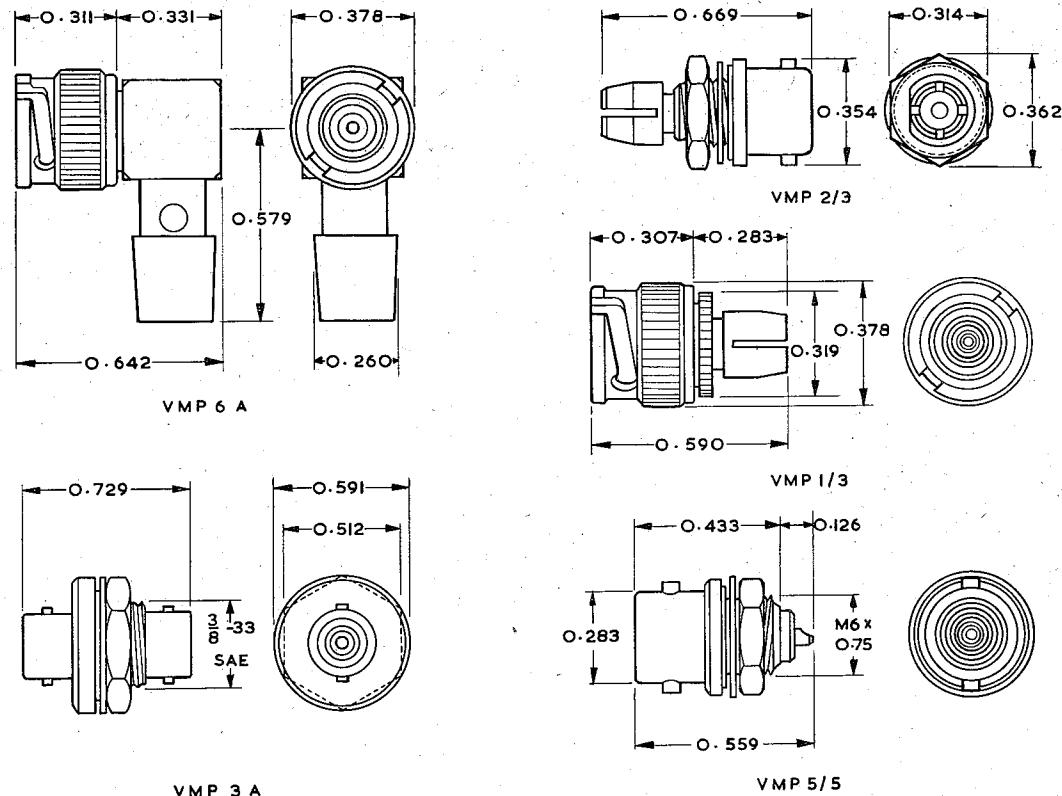

Fig. 2. Arrangement and dimensions
3. These connectors may not be dismantled, as the internal insulation and contacts are integral with the shells to ensure accurate contact alignment and an impedance of 50 ohms. The shells are of machined brass, heavily silver plated and coated to prevent oxidization. The insulation between the shell and contact pin is of Teflon and the contacts are made of brass, silver plated and coated. The overall dimensions and arrangements of the connectors in this range are shown in fig. 2. Table 1 details the connector types and reference numbers. .